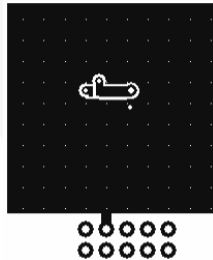
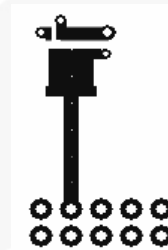

Figure 4. 1 Square Inch of 2-ounce copper
Figure 5. Minimum Pads of 2-ounce Copper
$T_A = 25^{\circ}\text{C}$ ⁽²⁾ (see Figure 4)	2.3
- The device power dissipation and thermal resistance (R_{θ}) are characterized with device mounted on the following FR4 printed circuit boards, as shown in Figure 4 and Figure 5